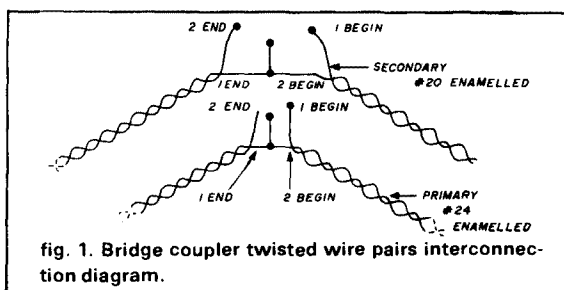

fig. 1. Bridge coupler twisted wire pairs interconnection diagram.
3. Compound twist gives the most consistent results (primary and secondary wires are first twisted independently, then these are twisted into a single strand). All four wires can be twisted simultaneously, but they would then have to be interconnected with attention to whether alternate or adjacent wires are being used as the respective primary and secondary. See fig. 1 for winding interconnection detail.